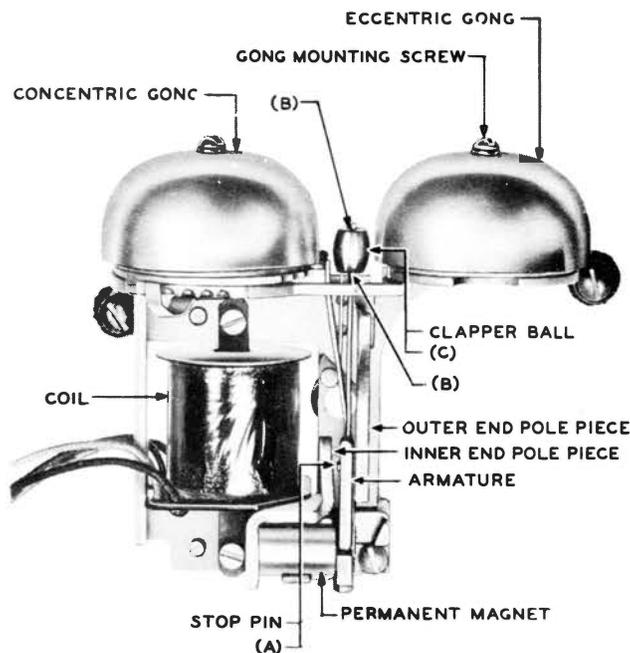

Fig. 1 - Points of Lubrication
- (1) Fig. 1(A) - One application to the end of the stop pin.
- (1) Fig. 1(B) - One dip to each end of the clapper ball at the clapper rod.
- (2) Fig. 1(C) - One dip to the curved surface of the clapper ball.